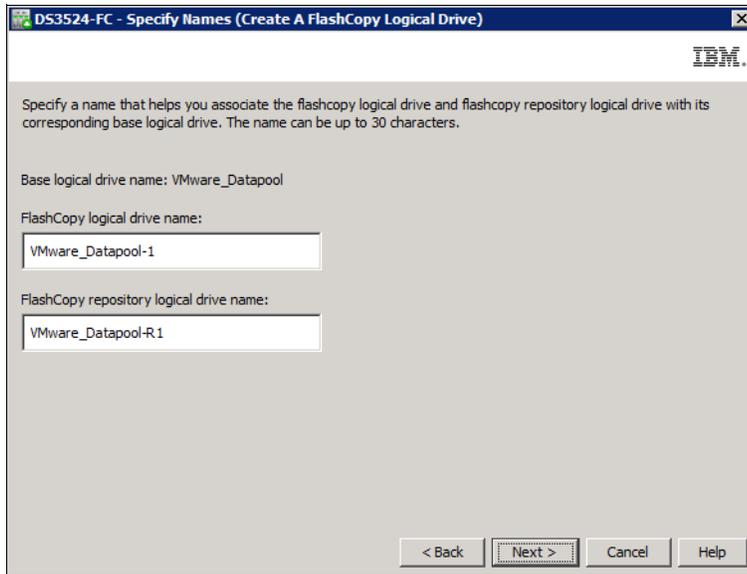

Figure 2-7 Create FlashCopy Logical Drive Wizard: Specify names
- a. The Specify Names panel displays (Figure 2-7 on page 24). Use it to define the name of the FlashCopy logical drive and its associated repository logical drive.
- a. On the Specify Names panel (Figure 2-7 on page 24) define the FlashCopy logical drive name and the name of its associated FlashCopy repository logical drive. Click **Next**.